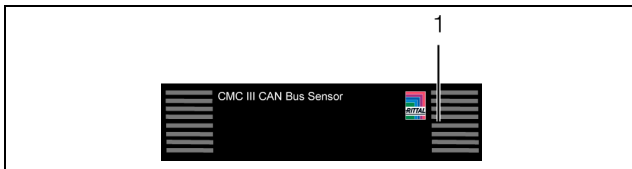
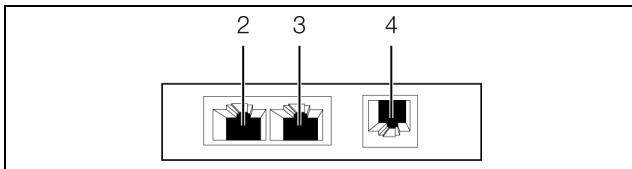

Fig. 9: Front of the CAN bus sensor
Fig. 10: Rear of the CAN bus sensor
A multi-LED for the status display is integrated into the front of the CAN bus sensor (fig. 9, item 1). Additional LEDs are located at the rear on the CAN bus connection (fig. 10, item 2 and item 3).